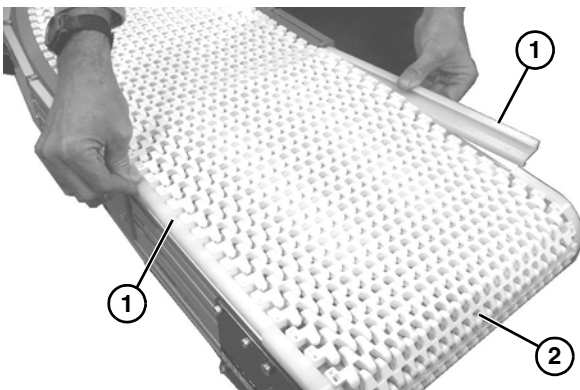

Figure 21
12. Slide the top wear strips (**Figure 21, item 1**) with wide lip facing up, under the conveyor belt (**Figure 21, item 2**) catching the bottom lip on conveyor frame, to cover the belt tabs.